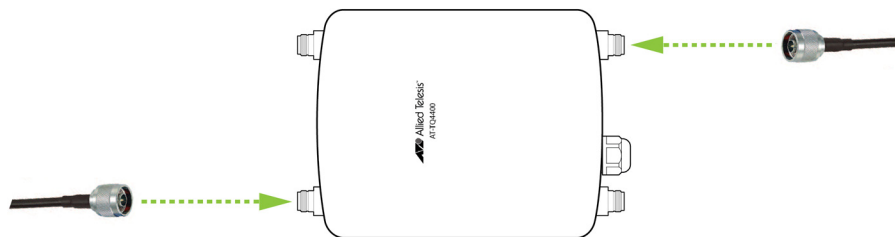
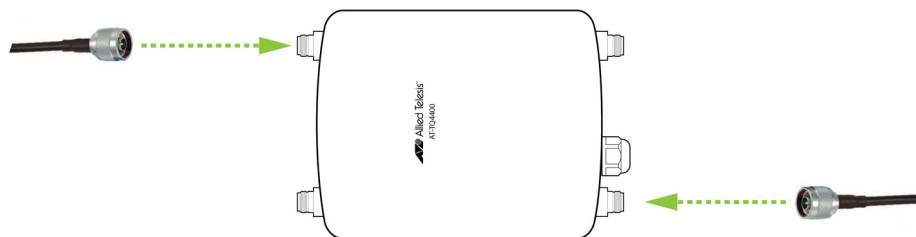

Figure 26. Installing Antennas for 2.4GHz to the Access Point
Figure 27. Installing Antennas for 5GHz to the Access Point
When you use the 2.4GHz band, see Figure 26; when you use the 5GHz band, see Figure 27.
4. Connect cables to the connectors on the back panel of the antenna as shown in Figure 26 on page 58.